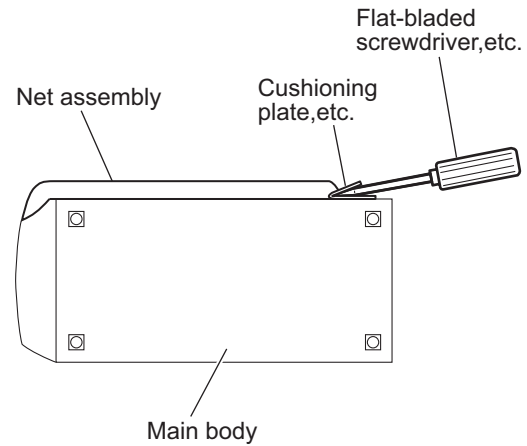

Fig.7
3.6 Removing the net assembly (See Fig 7)
- (1) From side of the main body, insert the tip of the flat-bladed screwdriver or similar tool into the space between the main body and net assembly, and lift the net assembly little by little to remove. (See Fig 7)
From right side of the main body, release the eight joints **d**, and take out the net assembly from the main body. (See Fig 7)